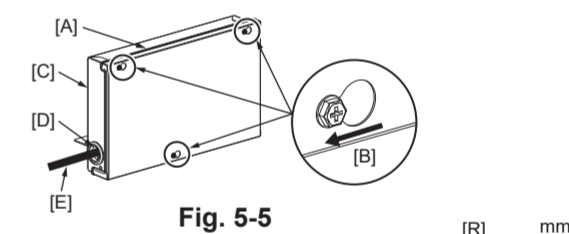

Fig. 5-5
- (1) Loosen the three screws securing the cover, then slide the cover. (Fig. 5-5)